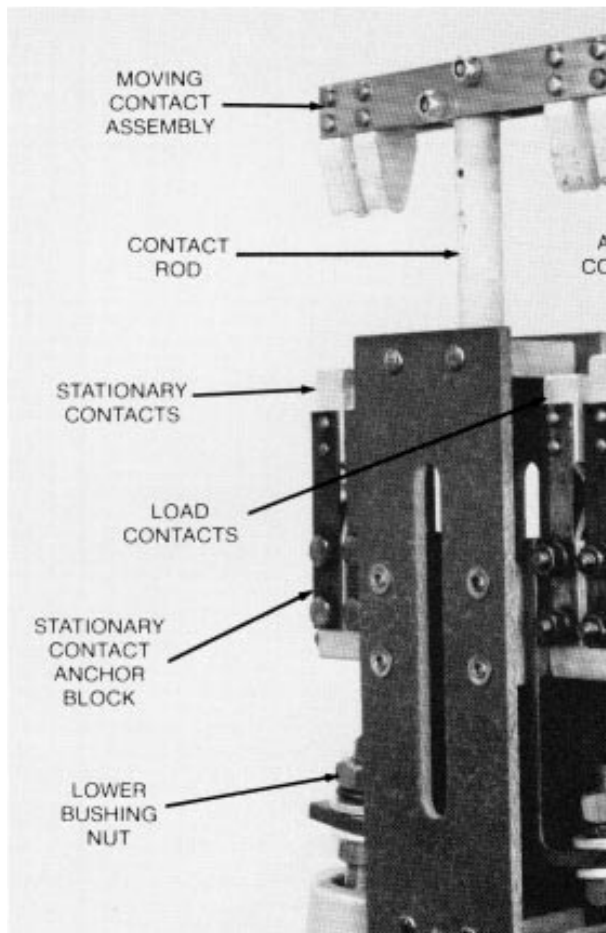

Figure 13.
NOTE: There should be approximately 1/32-in. play between the end of the trip rod and the lever assembly on the main shaft (Figure 13).
Type GV sectionalizers have an open-type contact arrangement with separate load and arcing contacts (Figure 13). To check the contacts:
To replace the moving and stationary contacts, refer to Figure 13 and proceed as follows:
2. Remove the lower bushing nuts securing the contact housing to the bushing assemblies (Figure 13).